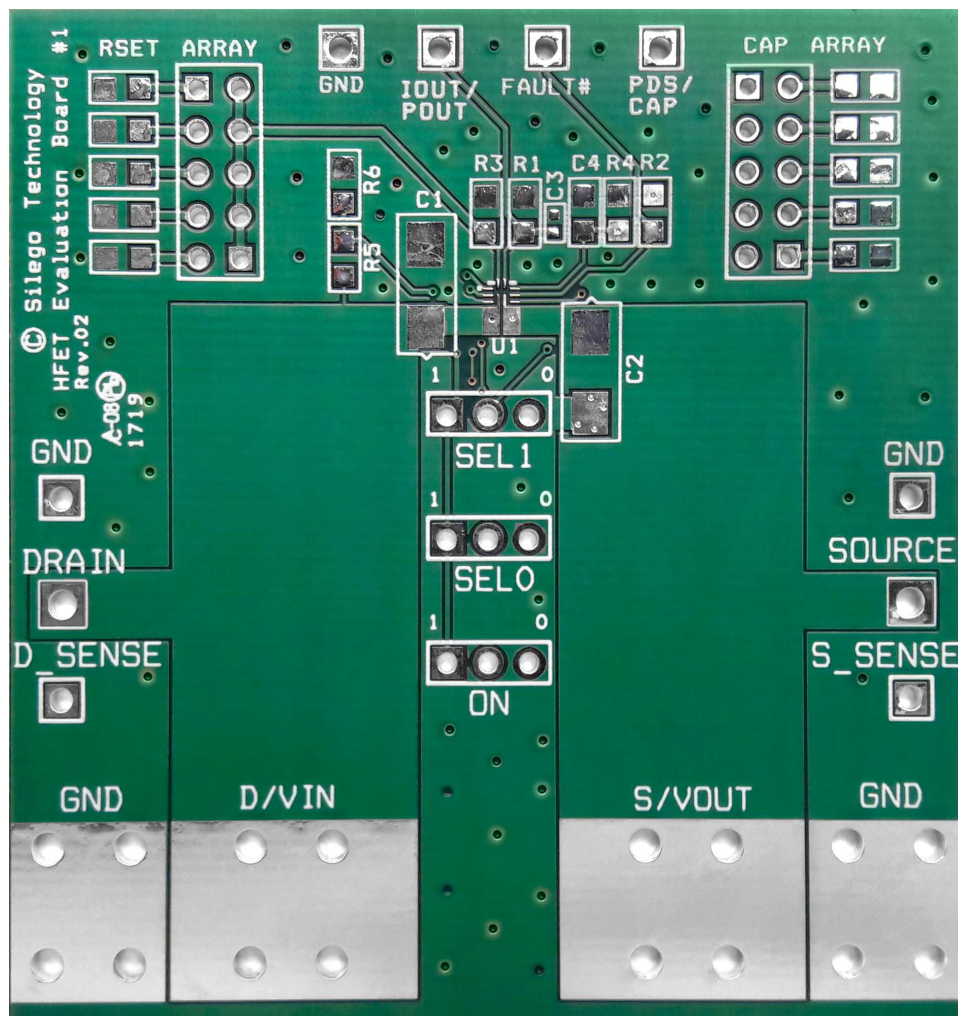

Figure 24. SLG59H1128V Evaluation Board
1. Since the VIN and VOUT pins dissipate most of the heat generated during high-load current operation, it is highly recommended to make power traces as short, direct, and wide as possible. A good practice is to make power traces with absolute minimum widths of 15 mils (0.381 mm) per Ampere. A representative layout, shown in Figure 24, illustrates proper techniques for heat to transfer as efficiently as possible out of the device;
A High Voltage GreenFET Evaluation Board for SLG59H1128V is designed according to the statements above and is illustrated on Figure 24. Please note that evaluation board has D_Sense and S_Sense pads. They cannot carry high currents and dedicated only for $R_{DS(ON)}$ evaluation.